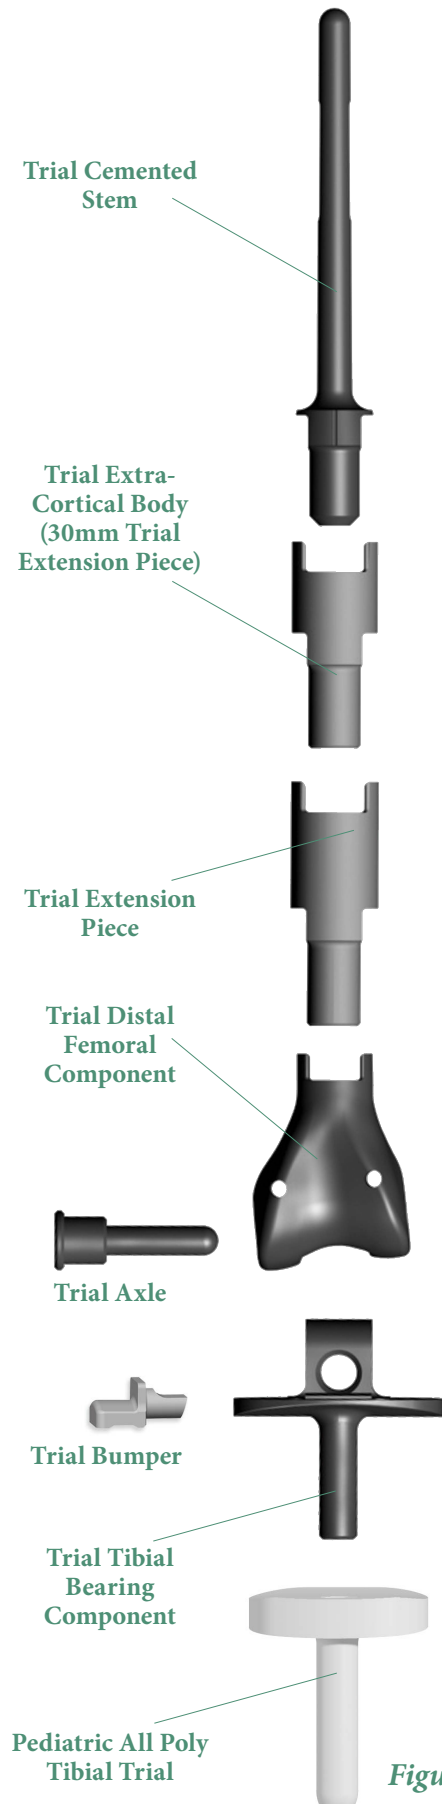

Figure 24
- ▶ Insert the Trial Tibial Bearing Component into the tibial trial. Bring the Trial Tibial Bearing Component up between the femoral condyles and insert the Trial Axle. Then insert the Trial Bumper through the anterior hole of the Trial Tibial Bearing Component (**Figure 24**). Hold the trial femoral assembly in one hand to prevent rotation and fully extend the leg. Palpate the femoral vessels to determine the status of the pulse. If the pulse is diminished, flex the knee to determine if it increases. This will indicate the need for either modifying the length of the prosthesis or for removing additional bone from the distal femur or proximal tibia.